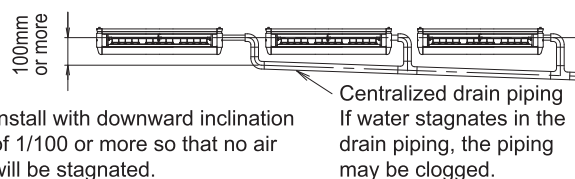

Fig. 27
To avoid the attached drain hose (1) getting excessive force, do not bend nor twist it. (It may cause water leakage.) When conducting the centralized drain piping, follow the instructions in Fig. 27. For the diameter of the centralized drain piping, select the diameter matching the capacity of the indoor unit to be connected. (Refer to technical guide-book.).